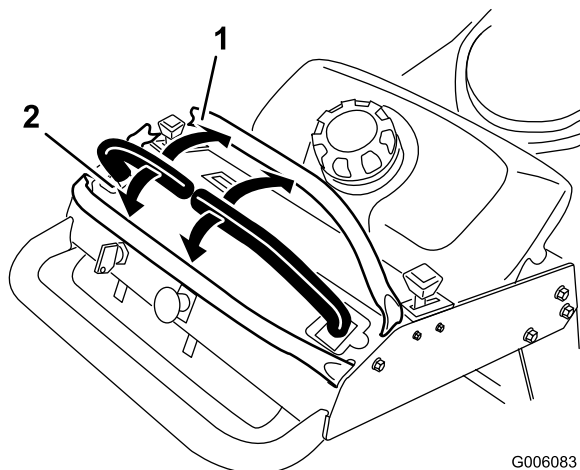

Figure 11
3. To go forward, slowly push the motion control levers forward (Figure 11).
To go straight, apply equal pressure to both motion control levers (Figure 11).
To turn, move the motion control lever toward neutral in the direction you want to turn (Figure 11).
2. To go backward, slowly pull the motion control levers rearward (Figure 11).
To turn, release pressure on the motion control lever toward the direction you want to turn (Figure 11).